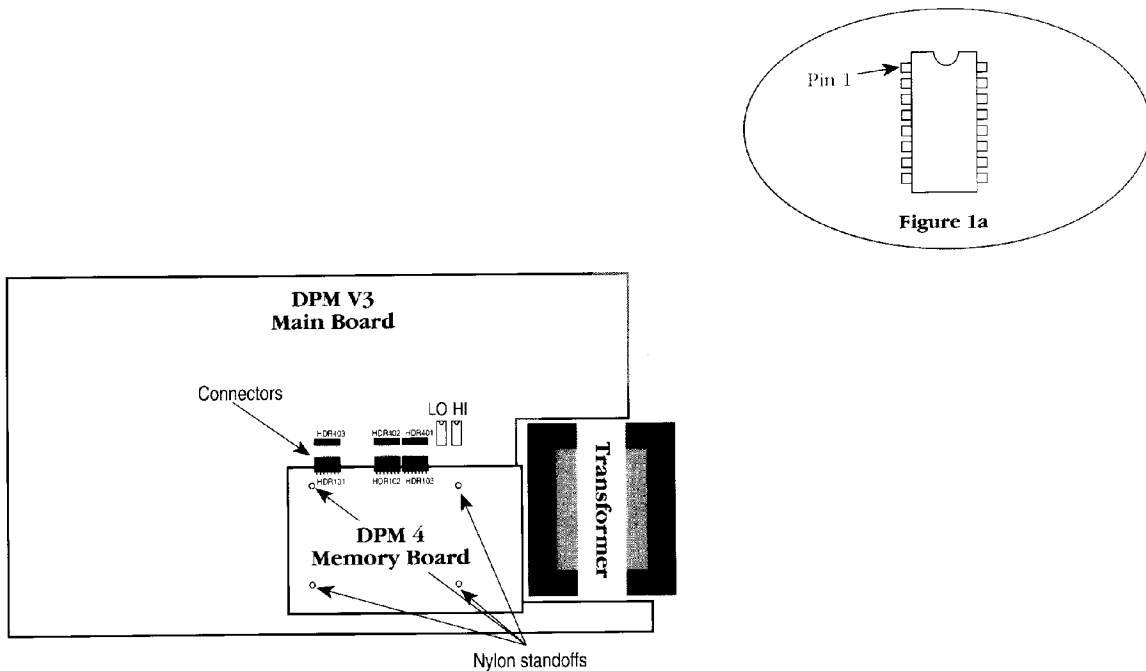

Figure 1
3. Depending on when your unit was manufactured, four nylon screws or four nylon "snap" standoffs are holding the WaveROM board in place. Locate them as shown in *figure 1*. The original WaveROM board can be removed with a screwdriver or by pinching the four nylon "snap" standoffs with a pair of needle-nose pliers.
- 8. To update the operating system, new EPROMs need to be installed. These are labeled “HI” and “LO” and are located on the DPM V3 main board. Refer to *figure 1* for the proper location of the “HI” and “LO” EPROM ICs.